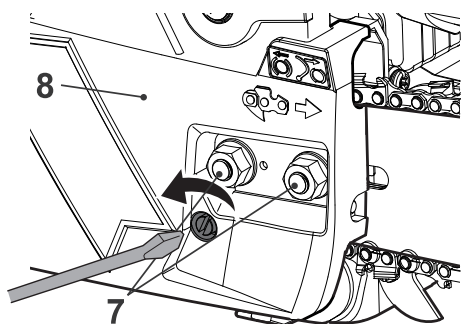

Fig. 1
- > Desaperte as porcas (7) e remova a tampa (8) (Fig. 1/2)